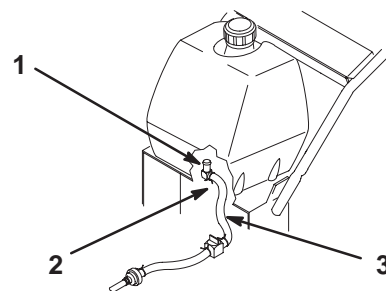

Figure 11
5. Push fuel line onto fuel tank fitting and secure with hose clamp (Fig. 11).